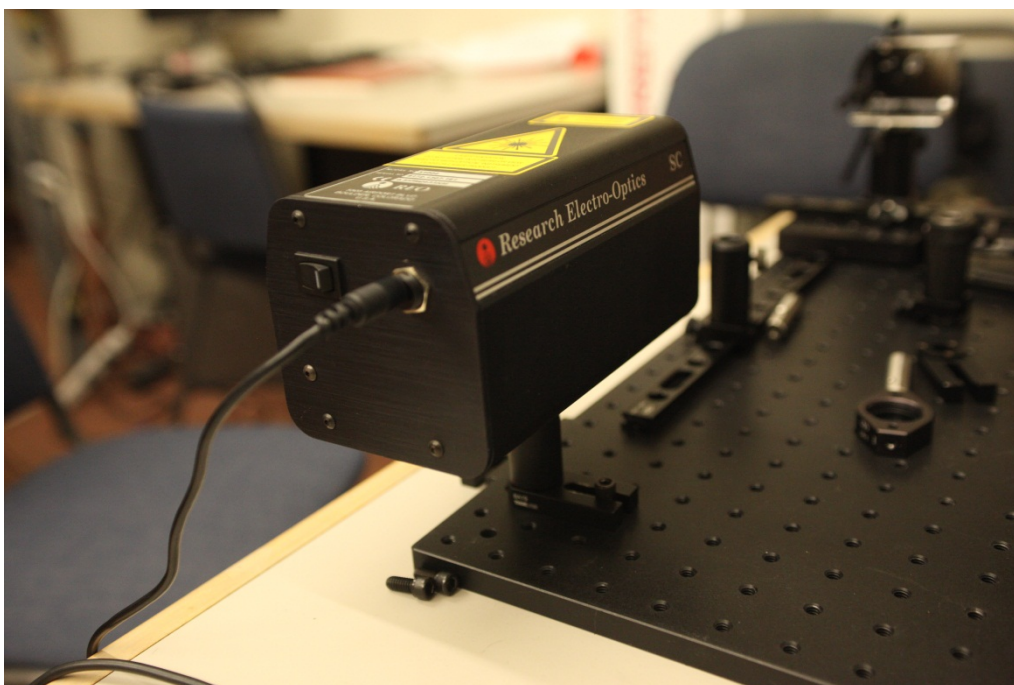

Figure 2: He-Ne laser (note switch at the back)
(1) First make certain the He-Ne laser (Figure 2) has been left on. The laser needs to be on for at least one hr prior to use to stabilize. Please note do not turn off the laser at the end of your work unless the TA says that is OK (end of labs for the week). The laser has a switch at it back end. At the front of the laser near the output is a sliding shutter. Make certain that the shutter is open and the beam is coming out of the laser. This laser power is at eye safe levels.
(3) You are to first align the laser to the centre of the rails. Observe the laser beam hitting the silicon detector (Figure 4) and the knife edge. We need to make certain the laser beam is aligned to near the centre of the detector. You should see the red laser beam as in Fig. 4 at the detector. The laser (Figure 2) is mounted on a post in a post holder that is in turn on a post holder positioner (Figure 3) that is bolted to the peg board. You may need back off the bolt of the post positioner (Figure 3) slightly slide the laser in the y direction (up or down in Figure 3) then lock the bolt with the hex driver Allen key set. To make certain the laser is positioned correctly put a post on one of the post holders on the rail and set it at the laser height. Move the post to near the laser and check the laser hits the centre of the post. If not move the laser (as before) until the beam is the center of the post (use the stud holder at the top of the post as a marker). Now slide the post to near the end of the rail (near the knife edge). Rotate the laser until it is centered there also. Slide the post back to near the laser and check the beam is still centered on the post (in case the rotation moved the laser). Repeat until both are in line. Then make certain the beam hits both the top of the post and then hits the centre of the silicon detector. This may require you to change both the y position of the laser, and the z (height). Z is controlled by moving the laser up and down with the laser's post holder.